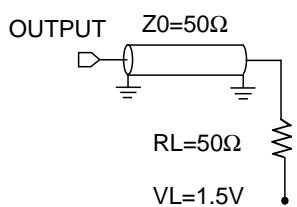
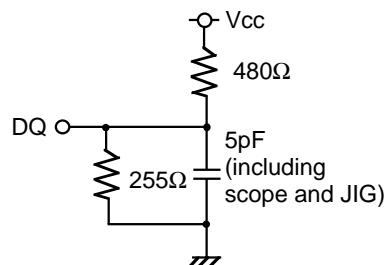

Fig.1 Output load
Fig.2 Output load for t_{en}, t_{dis}
Output loads Fig1 ,Fig2
5. Transition is measured $\pm 500\text{mV}$ from steady state voltage with specified loading in Figure 2.